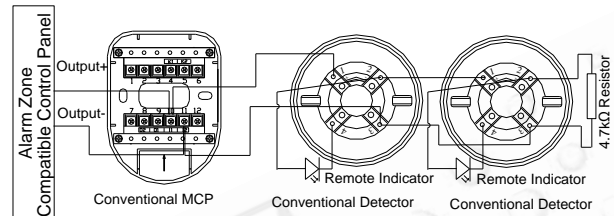

Fig.5
2. When the detector is connected with conventional fire alarm control panel or I-9319 Addressable zone monitor unit with an end of line resistor at the end, an ordinary common detector base will be used. The system connection is shown in Fig.5.